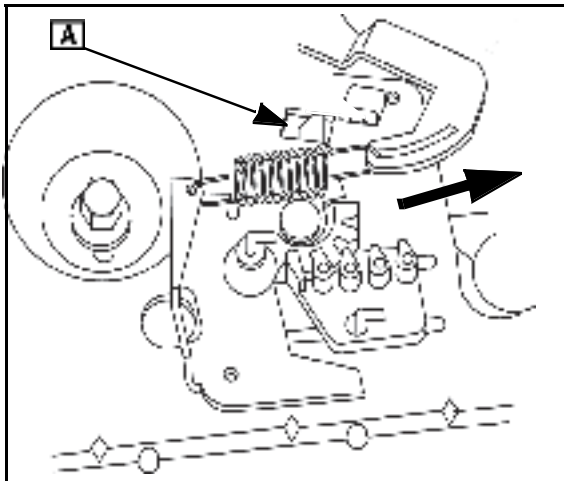

Fig. 42
2. The governor control lever should not ([A] Fig. 42) make contact with the stop switch tang.